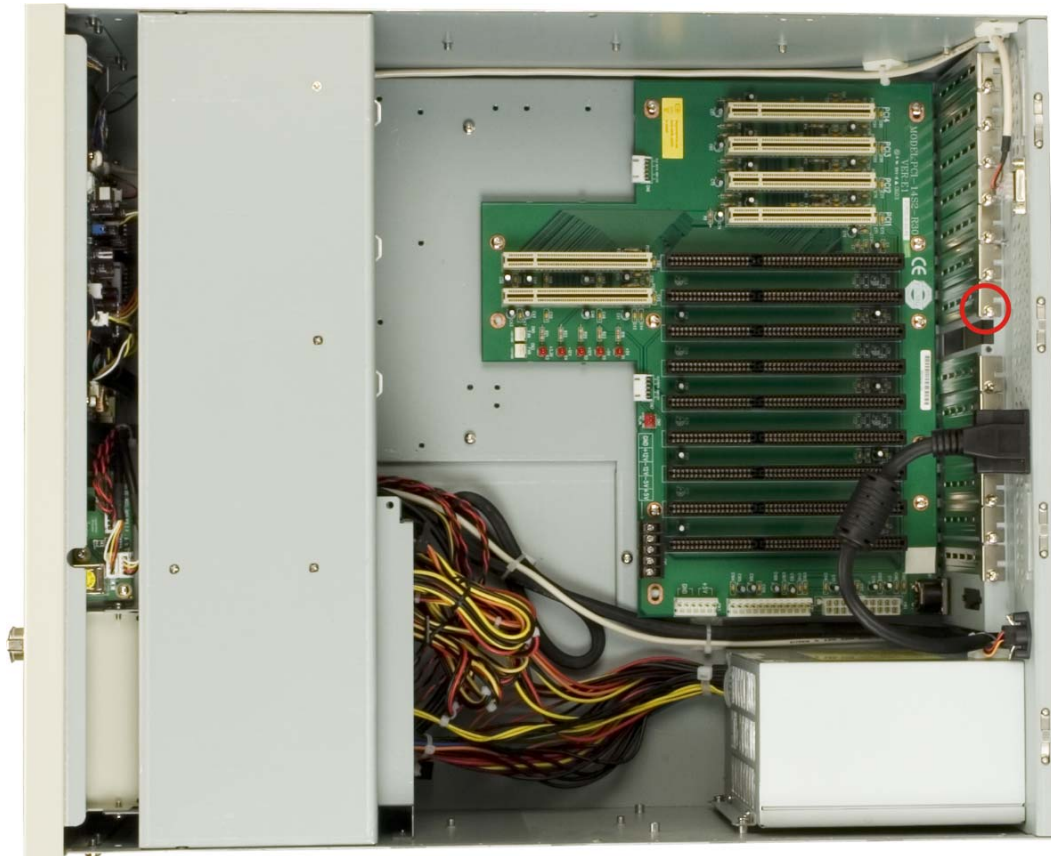

Figure 4-13: Slot Cover Retention Screw
- Step 1:** Remove the slot bracket from the chassis rear panel by removing the slot cover retention screw (**Figure 4-13**).
Step 1: Remove the slot cover retention screw to remove the slot bracket from the chassis rear panel (**Figure 4-13**).